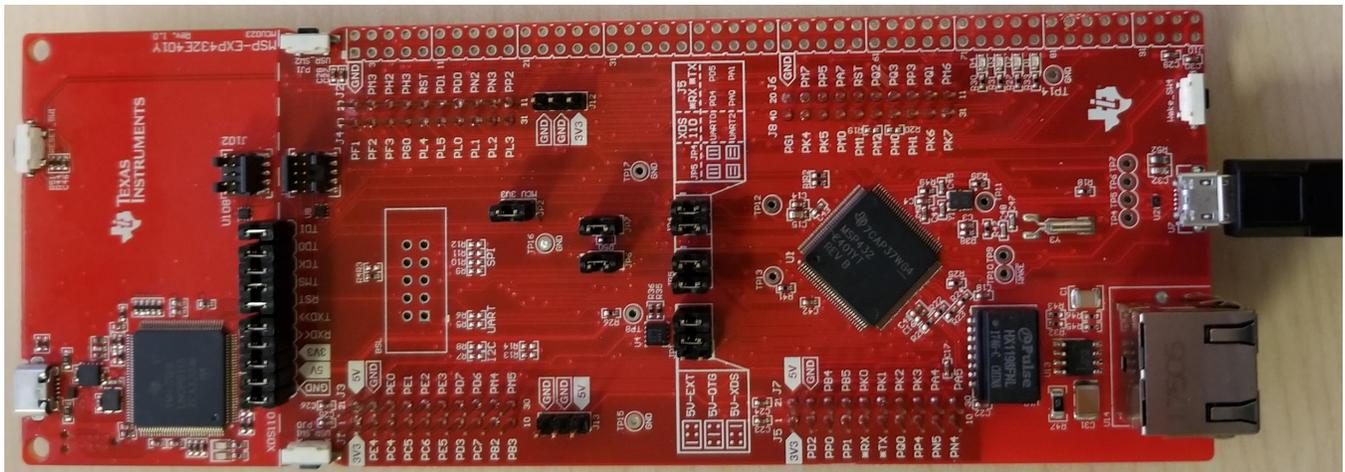

Figure 32. LaunchPad Connection for GUI Operation
17. Connect it to the USB port U7 on the other end of the LaunchPad, as shown in Figure 32.